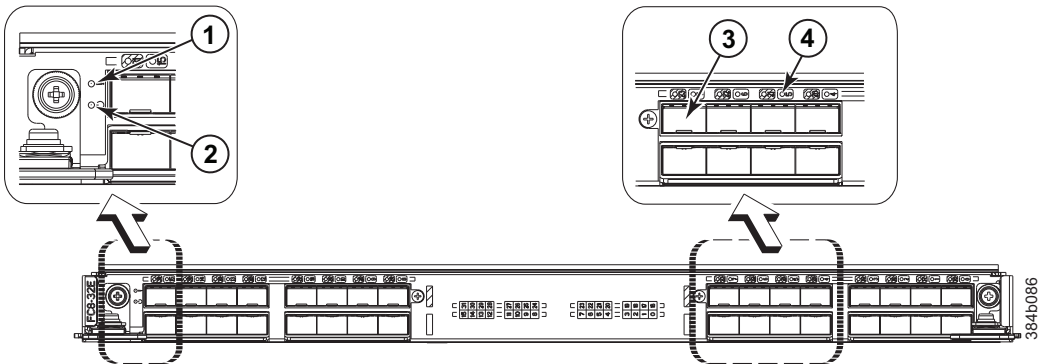

Figure 22. FC8-32E port blade
- Figure 22 on page 58 illustrates the FC8-32E port blade